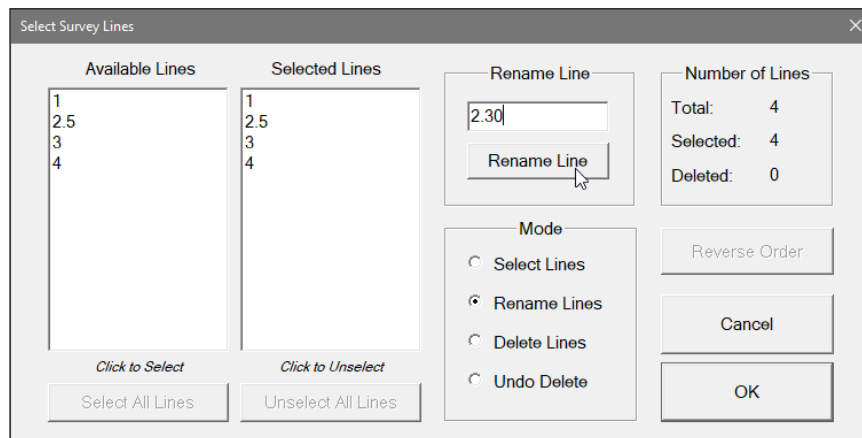

Figure 3.17 Select Lines window during Rename Line procedure
- In Rename mode (in the Select Lines window), click a line name. The name appears in the Rename Line box (Figure 3.17).